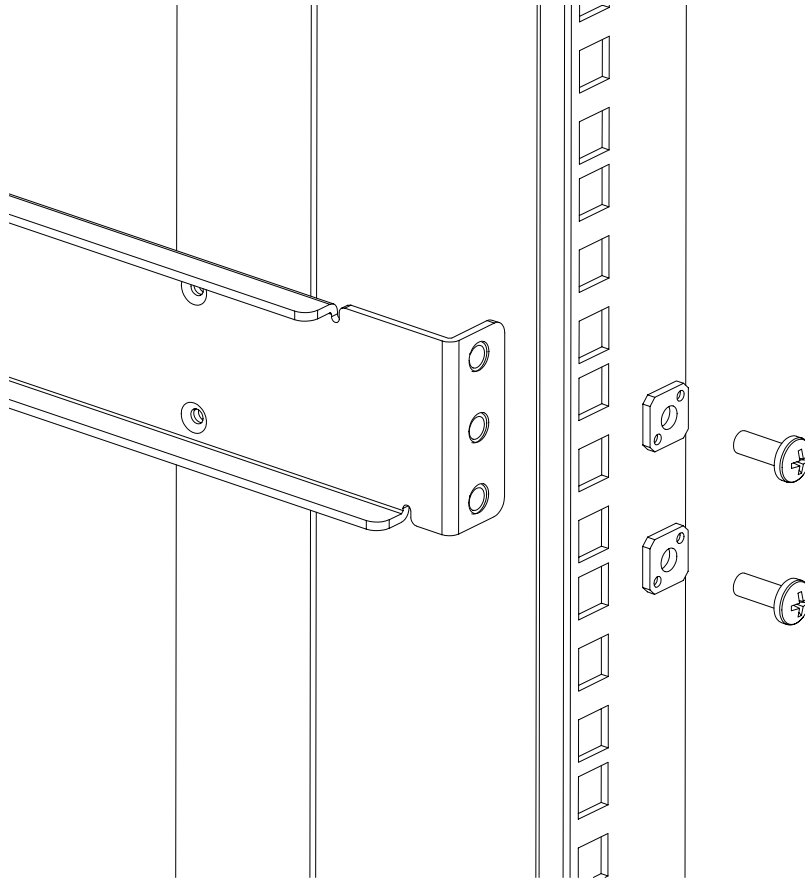

Figure 8: Assembling the outer rails (HP 10000 series or comparable EIA cabinet)
- For an HP 10000 series or comparable EIA cabinet, install two #10-32 x 1/2-inch Phillips pan-head screws with captive star lock washers and two #10 adapter washers in the upper and lower hole locations of the right rail. Then install two #10-32 x 1/2-inch Phillips pan-head screws with captive star lock washers and two #10 adapter washers in the upper and lower hole locations of the left rail. See Figure 8.